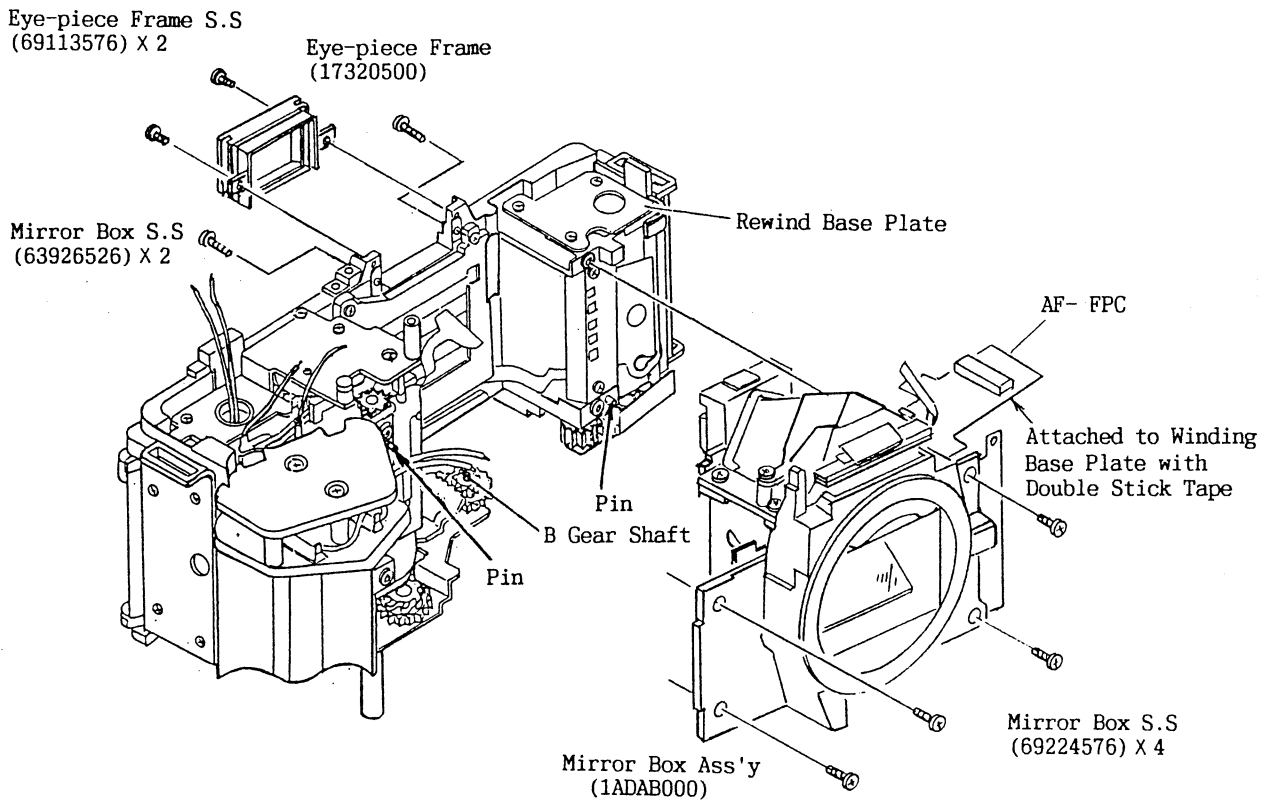

Fig.27
- b) In removing the Mirror Box Ass'y, take care not to break the two pins of the Body. (See Fig.27)
- c) The B Gear Shaft is inserted in the hole in the bottom of the Mirror Box Ass'y. Therefore, lift up the Mirror Box a little and remove the Mirror Box Ass'y toward the front. (See Fig.27)